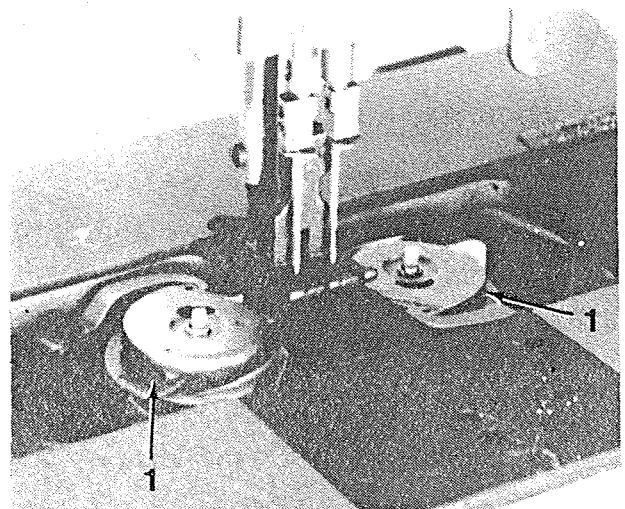

FIG. 14
B. The Tension Of The Bobbin Thread (Fig. 14)